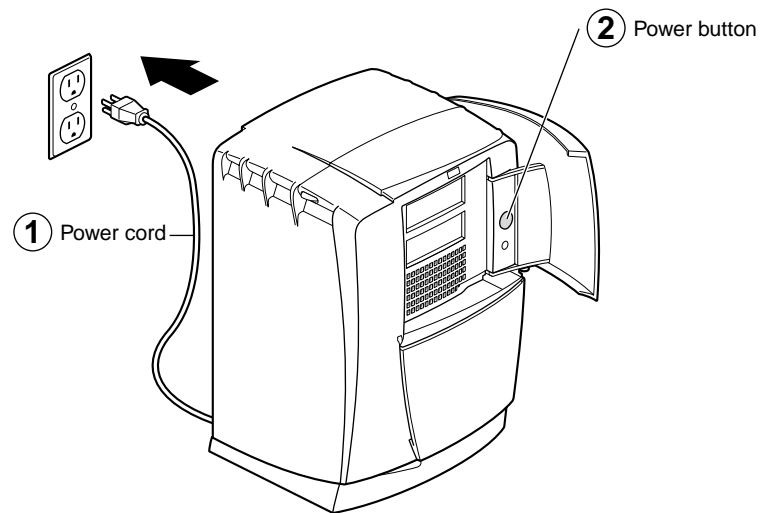

Figure 2-7 Powering On the Octane2 Workstation
4. Plug the Octane2 power cord into an electrical outlet, as shown in Figure 2-7.
5. Push the power button on the front of the Octane2 workstation, as shown in Figure 2-7.